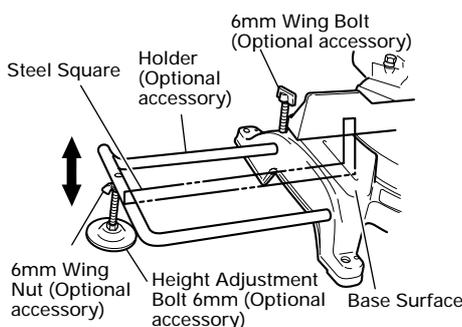

Fig. 9
(1) As indicated in Fig. 9, use a steel square for aligning the upper edge of the holders with the base surface. Loosen the 6mm wing nut. Turn a height adjustment bolt 6mm, and adjust the height of the holder.
(2) After adjustment, firmly tighten the wing nut and fasten the holder with the 6mm wing bolt (optional accessory). If the length of Height Adjustment Bolt 6mm is insufficient, spread a thin plate beneath. Make sure the end of Height Adjustment Bolt 6mm does not protrude from the holder.